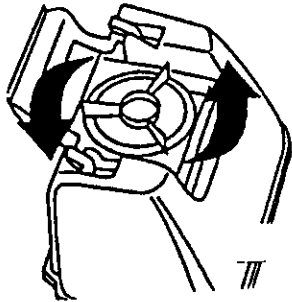

Fig. 2
1. Twist off to remove (Fig. 2)